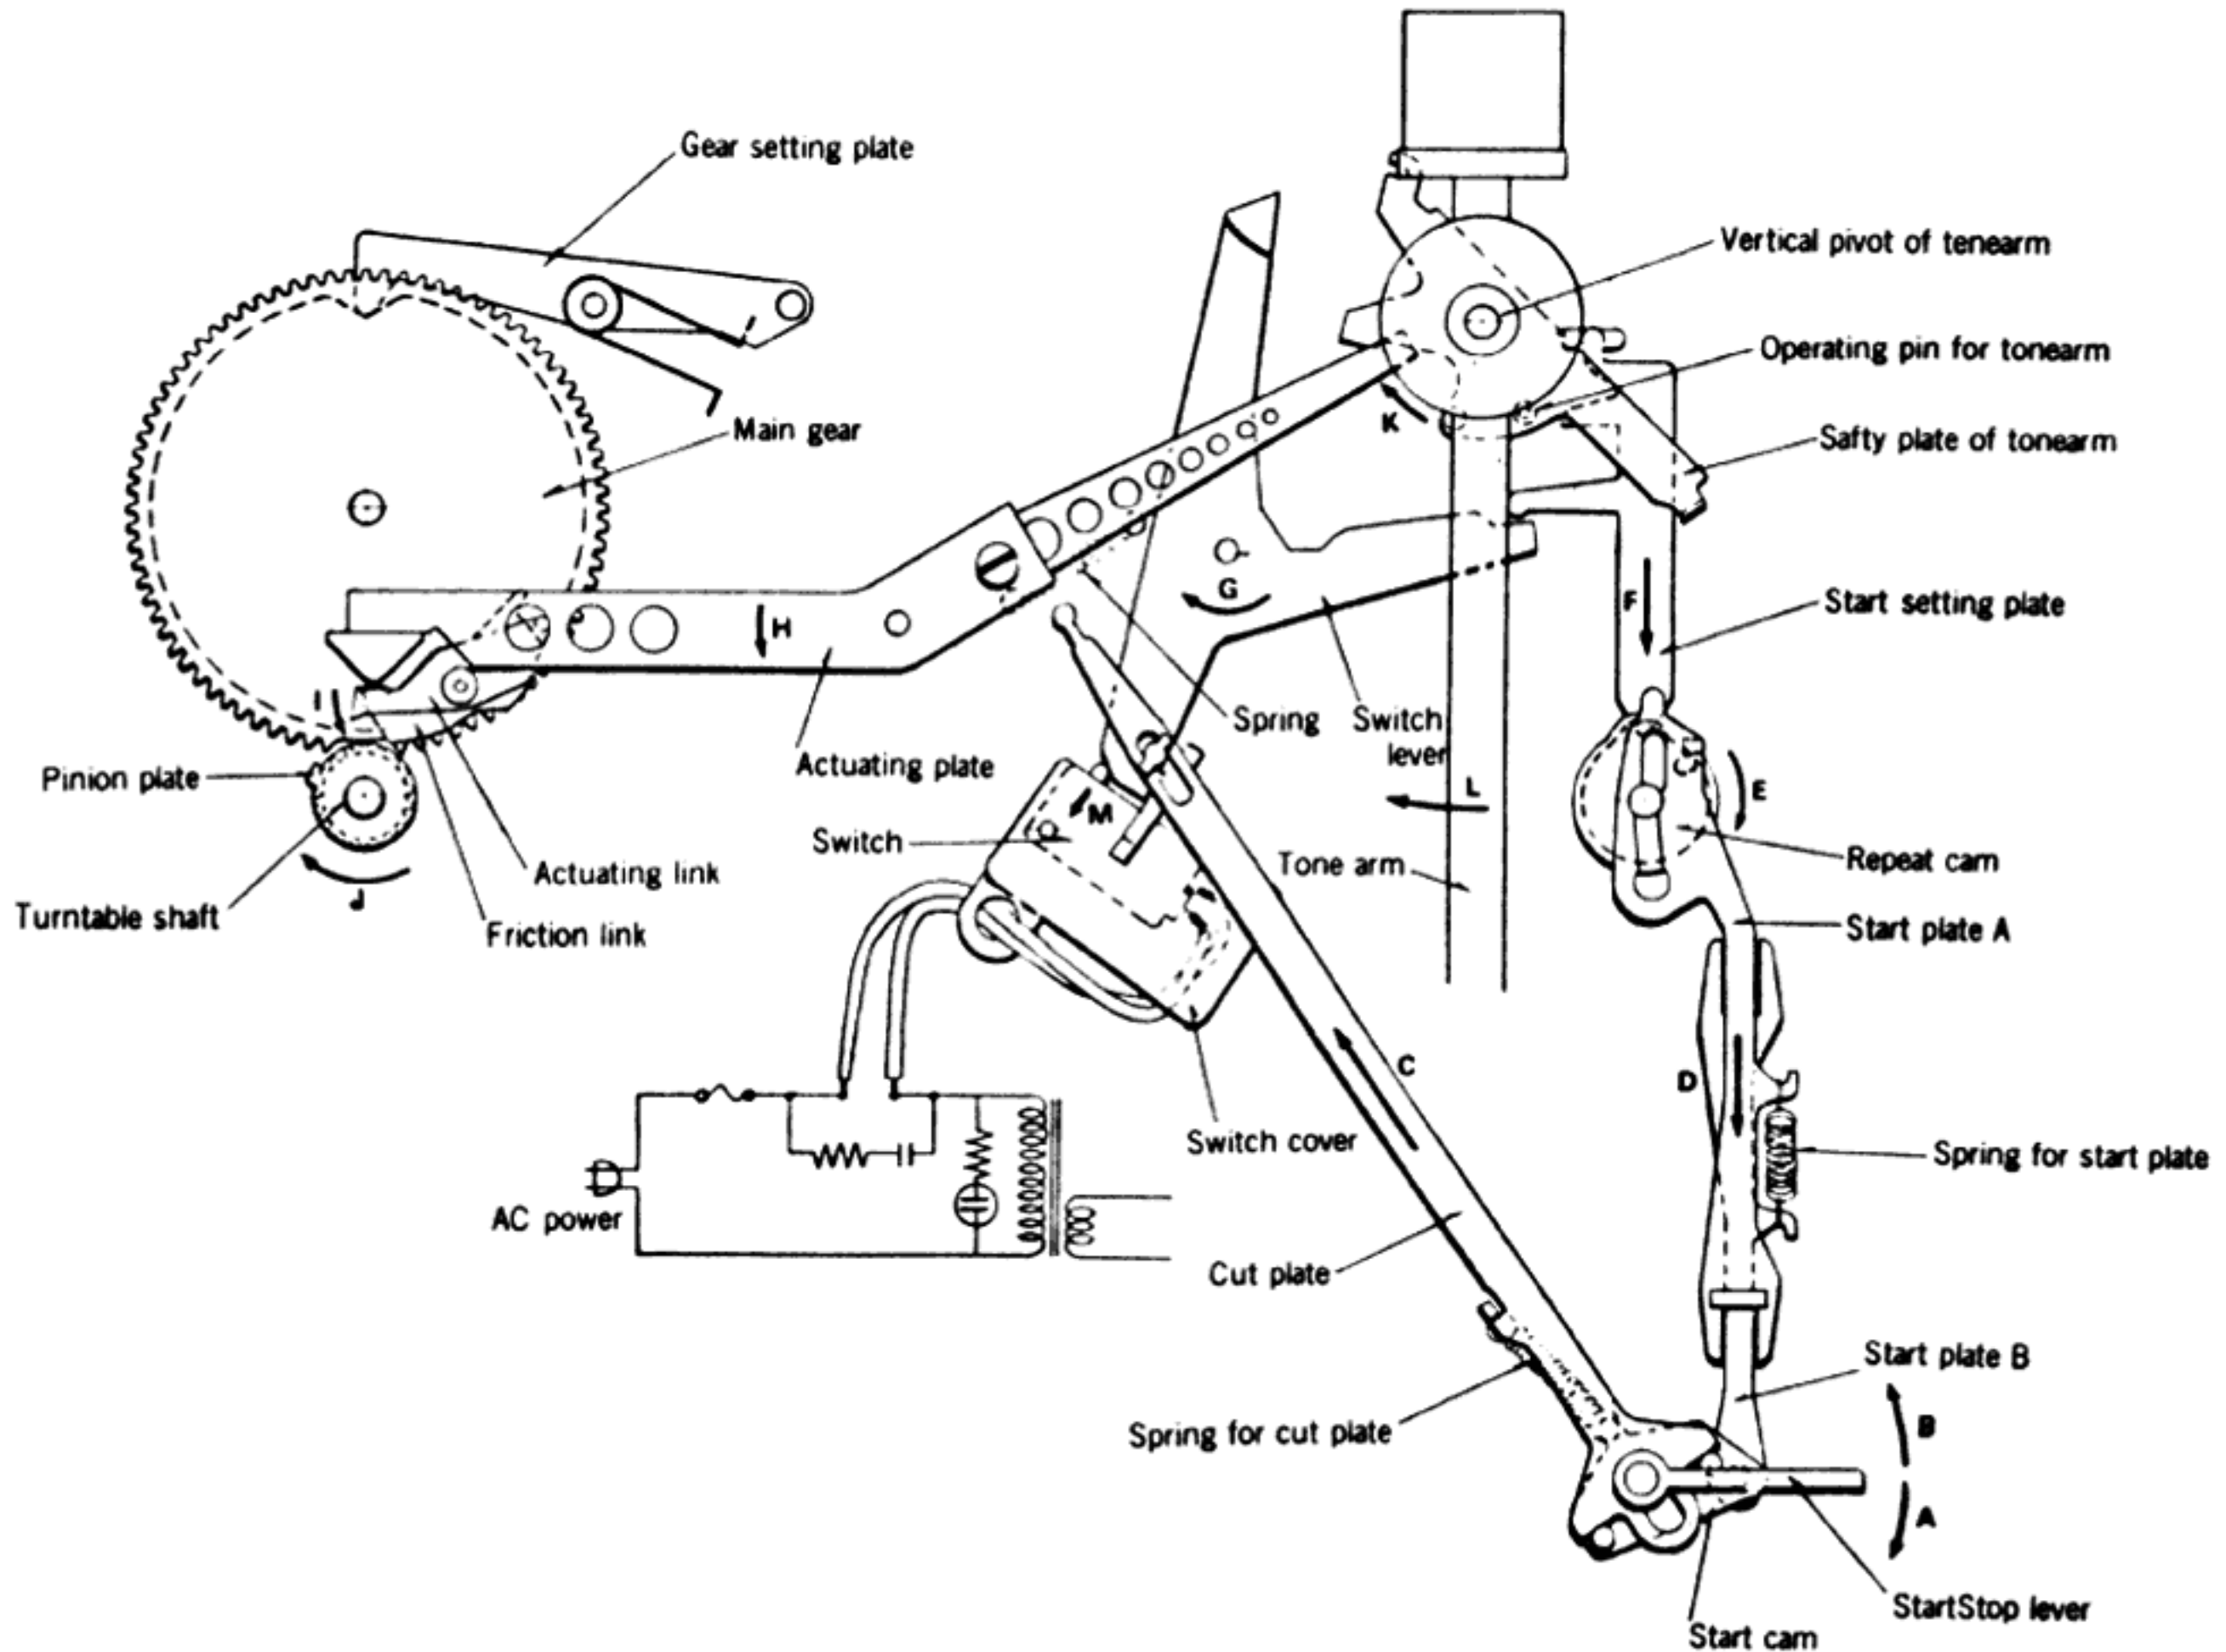
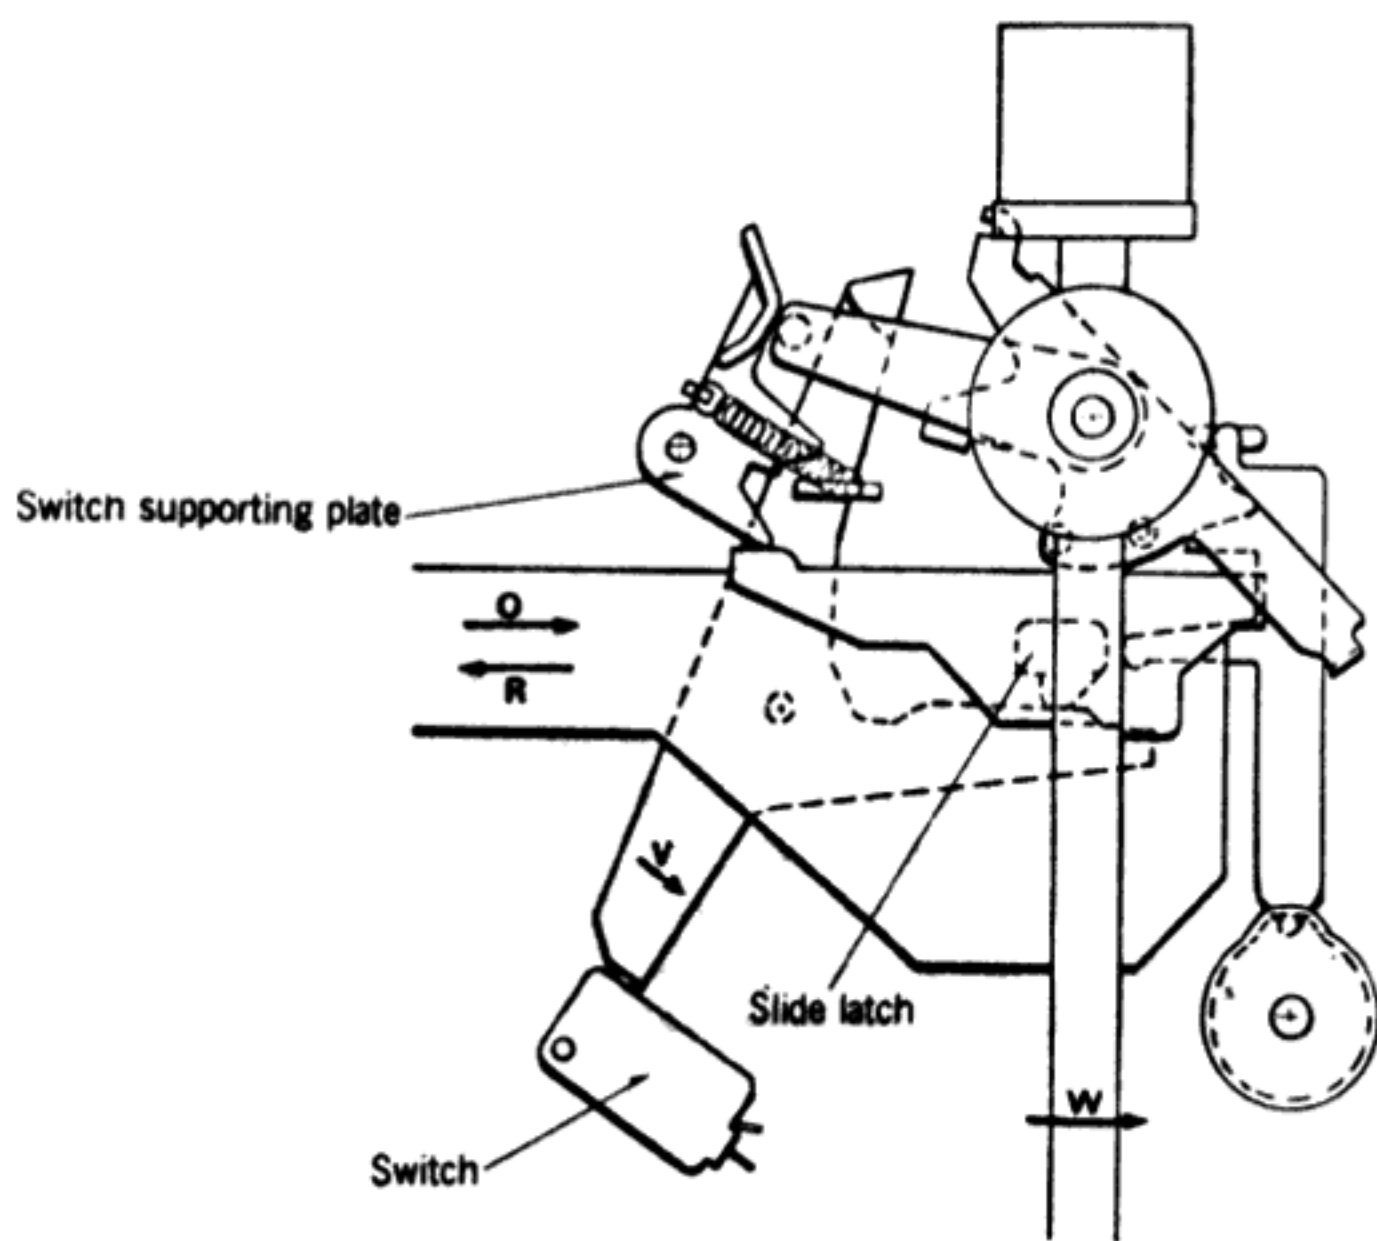

Fig. 1
Fig. 4
1. Starting operation (Figure 1)
4. Auto-return operation (Figure 1) (Figure 4)
5. Stop operation (Figure 1) (Figure 4)
7. Memory repeat operation (Figures 1 ~ 4)